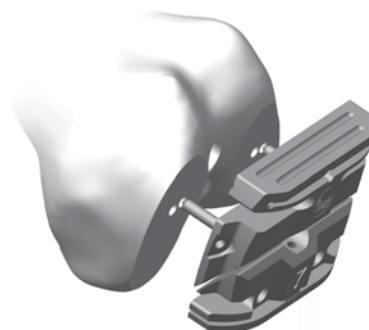

Fig. 119
- If additional adjustment with the Shift Block is desired, remove it from the bone, using an osteotome if necessary, and replace it in the newly drilled holes and repeat the drilling process. Otherwise, place the 4-in-1 Cut Guide in the newly drilled holes (**Fig. 119**) and perform bone resections.